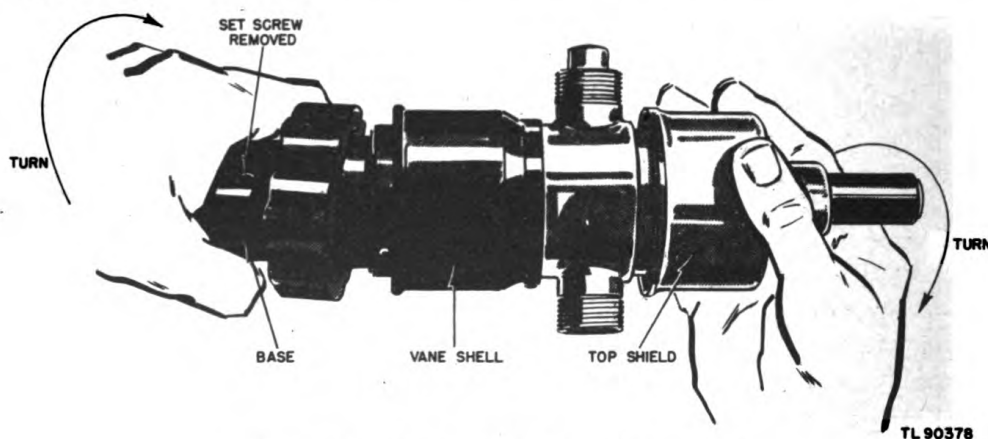

Figure 11. Unscrewing wind vane assembly.
- (4) Unscrew the union nut and remove the counterbalance from the vane shell.
- (5) Separate the two main sections of the wind vane assembly (fig. 11).
*d. Replacing Resistor Assembly.* (1) Remove the three screws on the base that hold the two shields (one within the other) around the resistor assembly, and remove the shields.
them together, turning in the opposite directions from those indicated in figure 11.